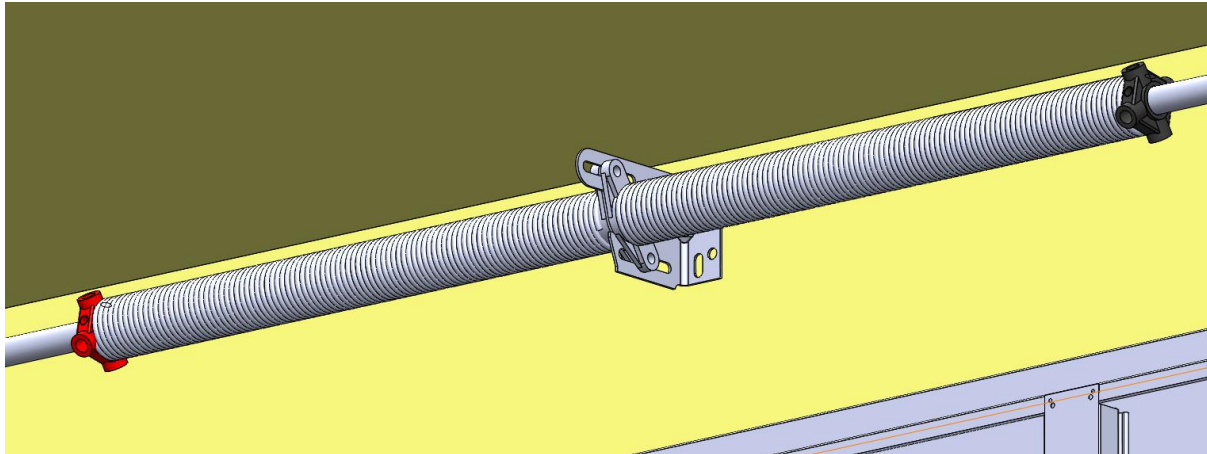

Figure 20
14. Raise torsion system to inside of horizontal angle and flag bracket. When standing in the room looking out, the RED drum and RED spring end cap will be on your LEFT. (Figure 20)